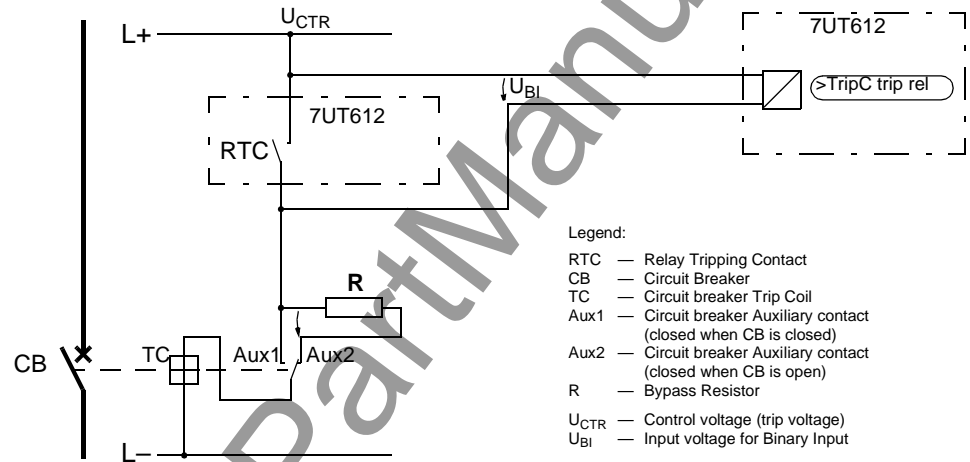

Figure 3-4 Trip circuit supervision with one binary input
If *one* binary input is used, a bypass resistor R must be employed (refer to Figure 3-4). This resistor R is connected in series with the second circuit breaker auxiliary contact (Aux2). The value of this resistor must be such that in the circuit breaker open condition (therefore Aux1 is open and Aux2 is closed) the circuit breaker trip coil (TC) is no longer picked up and binary input (BI1) is still picked up if the command relay contact is open.